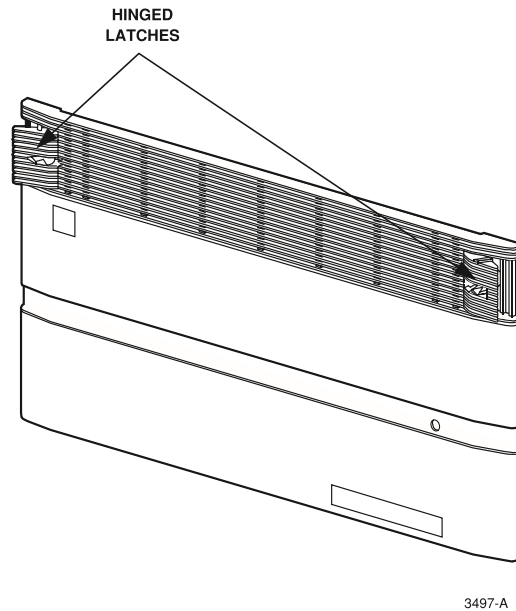

Figure 5-2. HDT Front Cover Latches
2. Release both the left and right side latches, shown in Figure 5-2, by pulling outward on the outer edge of the latch while at the same time pushing inward with the thumb on the inner hinge end of the latch.